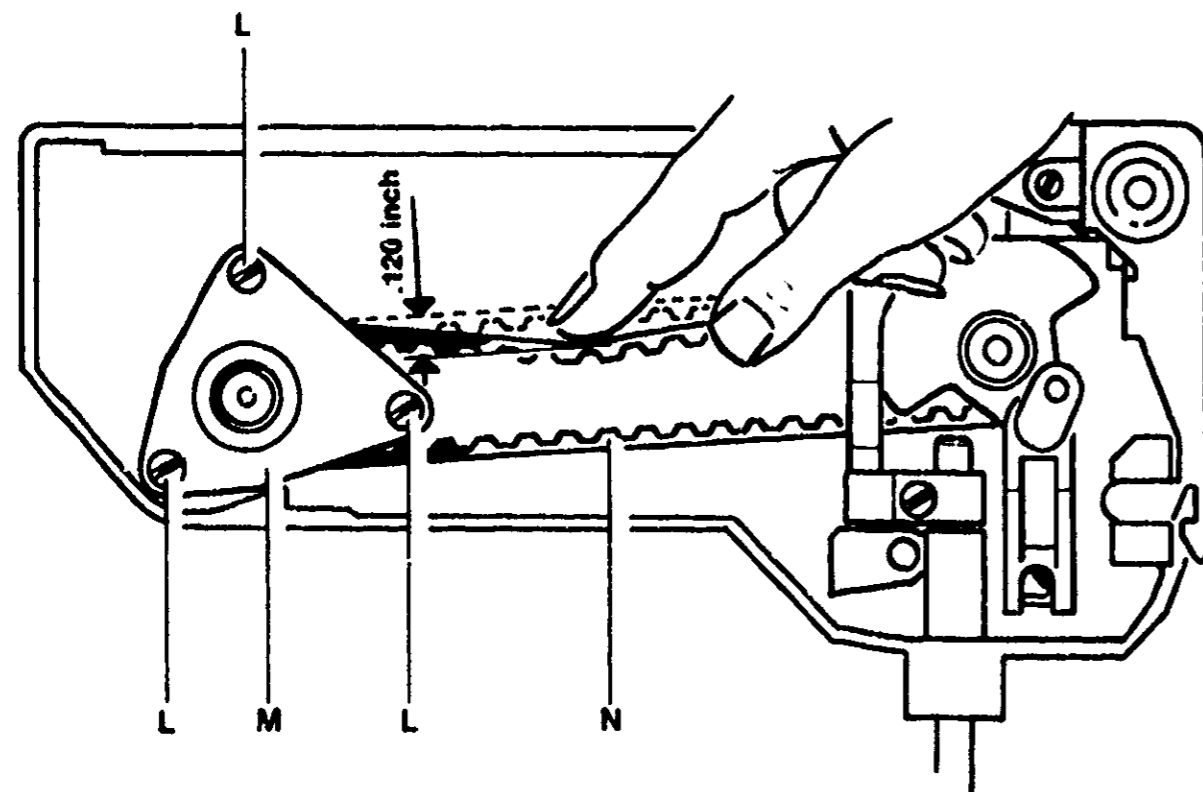

FIGURE 73
Install belt and replace support (M) and screws (L). Adjust and check the belt tension. Correctly set, the belt may be pushed down about .120 inch (3 mm) with slight finger pressure (Figure 73). If belt tension is not correct, loosen screws (L) slightly and adjust support (M). Then tighten screws (L) securely.